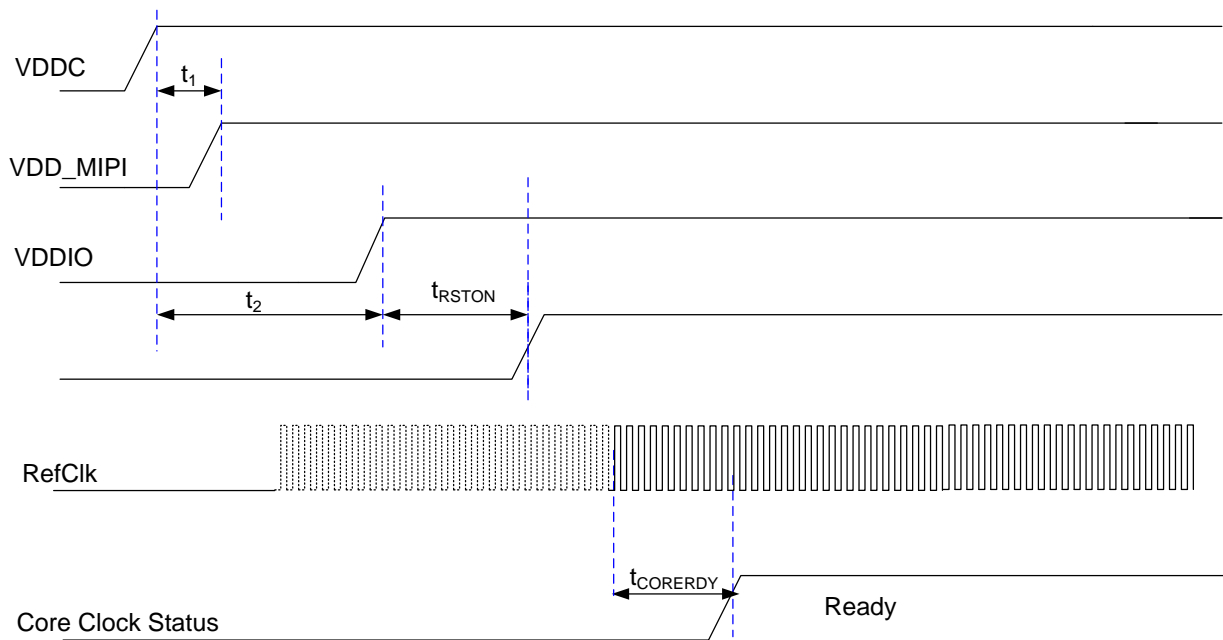
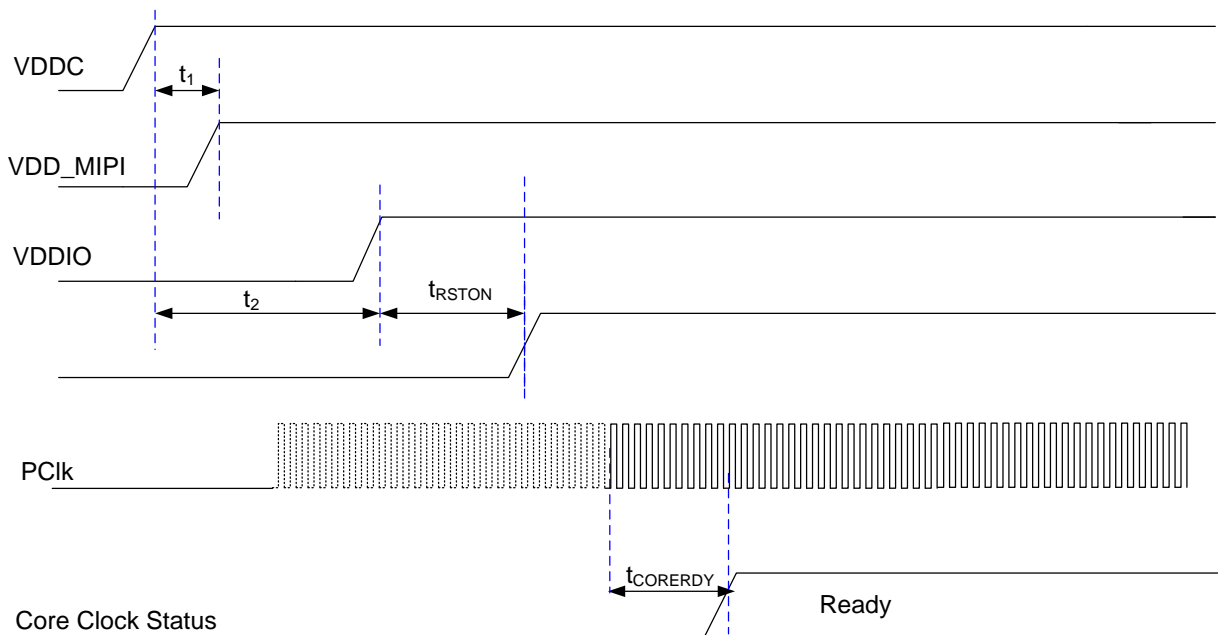

Figure 5-2 Power On Sequence (When RefClk is Available to Drive PLL)
Figure 5-3 Power On Sequence (When PClk is used to Drive PLL in Parallel In Mode)
2. For voltage source, it is desired to turn on core power (1.2) source first, then Analog PHY and IO power as shown in Figure 5-2 Power On Sequence. RefClk can be provided either before or after the de-assertion of RESX as indicated by the dash line.
3. In CSI-2 Tx mode, RefClk can be tie to ground. In this case, PClk/4 will be used to drive PLL, Figure 5-3.
4. The timing parameters for Figure 5-2 and Figure 5-3 are tabulated in Table 5-3.